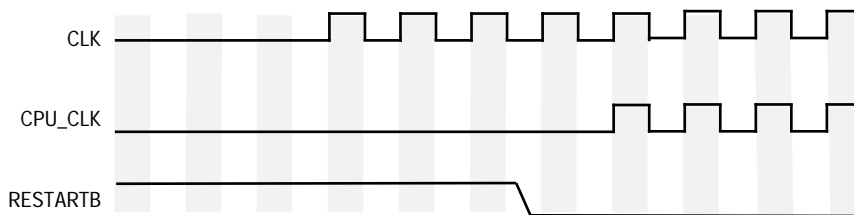

Figure 5. Clock Start Timing
- 3.) Assert the RESTARTB signal. This will cause the processor's clock to start on the next falling edge of the system clock. Figure 5 shows the timing for bringing the processor out of the low power mode. Both the RESTARTB and RESETB signals are subject to the asynchronous setup time as specified in **Section 7 Electrical Characteristics** in the *EC000 Core Processor (SCM68000) User's Manual*.